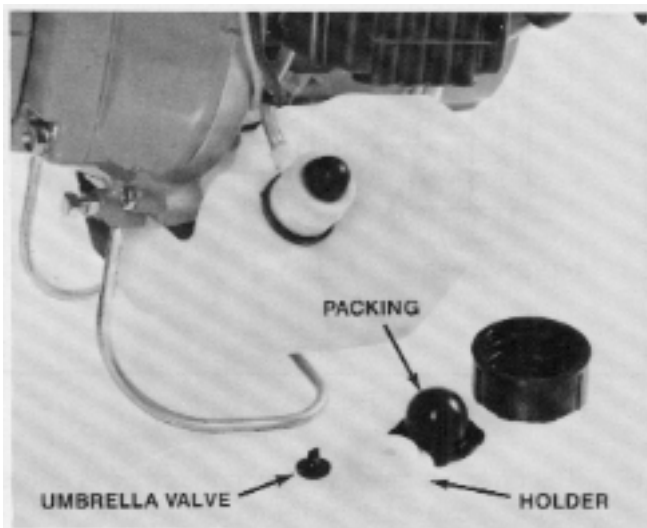

Figure 49
2. Pry the gasket, holder and breather valve out of the tank cap. See Figure 49.